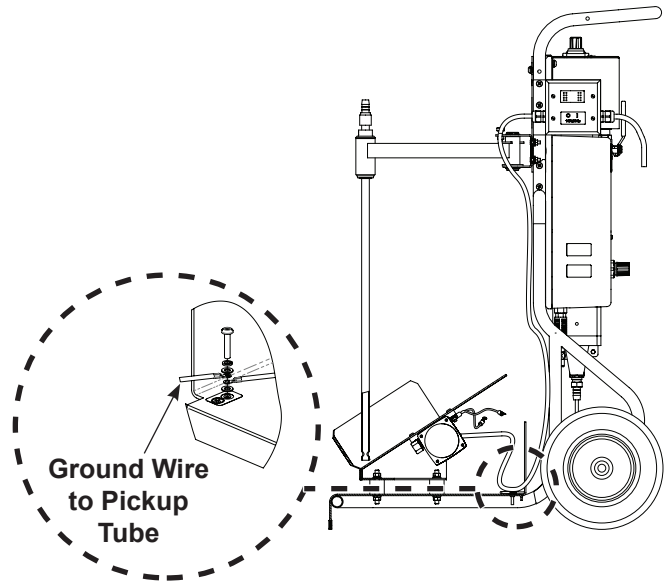

Figure 9 Connect Ground Wire to Dolly Base
1. See Figure 9. With the supplied ground wire, attach ring-tong end of the ground wire to the ground stud on the dolly frame base.